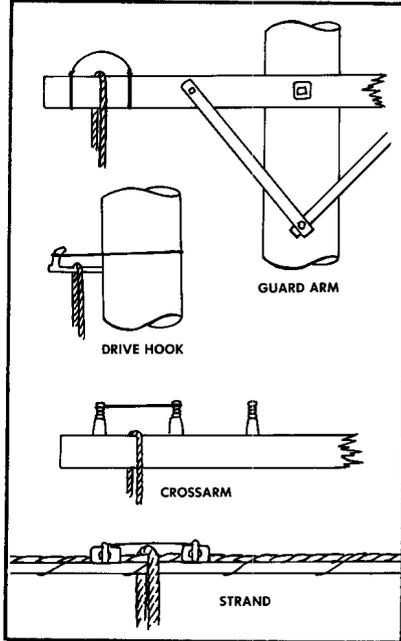

FIGURE 1. Temporary Guide Loop—Pole
**2.09** If conditions could cause the handline, or the drop wire to which it is attached, to become disengaged from a drive hook or crossarm, or may slide along the strand or guard arm while doing the work, the handline or drop wire shall be enclosed with a temporary guide loop. This loop shall consist of a short length of wire or rope placed over the handline or drop wire, with the ends of the guide securely tied as follows (Figure 1):